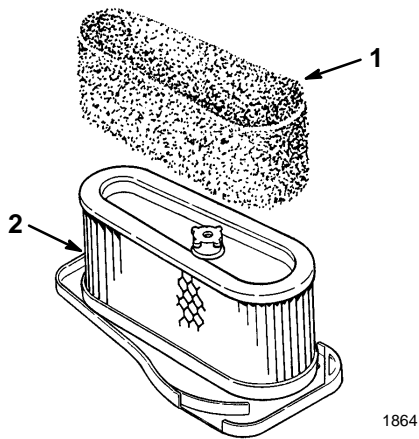

Figure 27
4. Carefully slide the foam element off the paper element (Fig. 27).
1. Carefully slide the foam element onto the paper air cleaner element (Fig. 27).